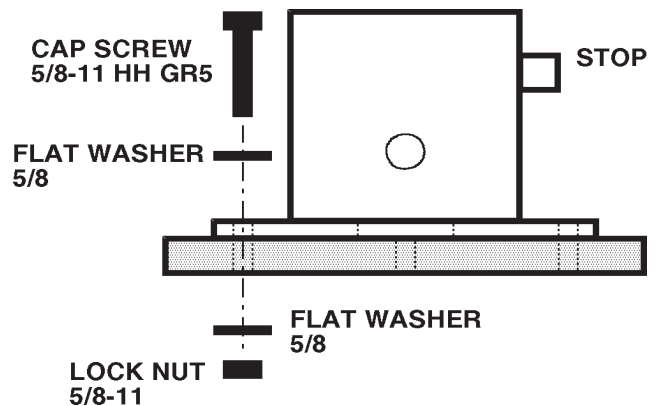

Figure C-2. MOUNTING HARDWARE
Locate the base with the rotation stop positioned for your particular application which is normally away from the most used working position. Secure the base to the mounting surface using four (4) 5/8-11, hex head, grade 5, cap screws; eight (8) 5/8" flat washers and four (4) 5/8-11 self-locking, hex nuts. See Figure C-2.